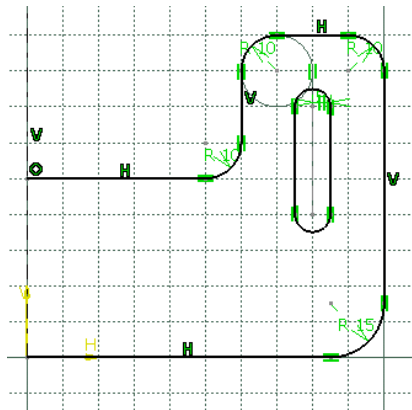

Figure 3-60 The sketch after drawing the elongated hole
- Draw the right half of the sketch using the **Profile** and **Elongated Hole** tool, refer to Figure 3-60.
12. Draw a vertical elongated hole on the right of the sketch using the **Elongated Hole** tool, as shown in Figure 3-60.